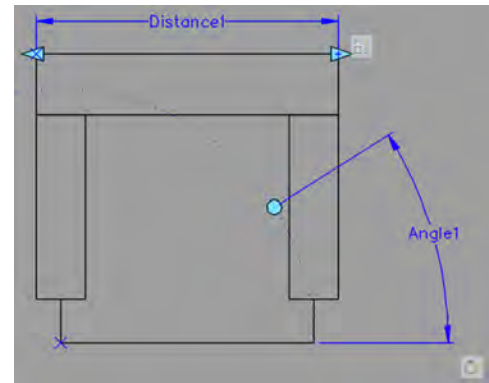

FIGURE 7.12
- Step 3.** Now, you can add actions associated with those parameters. Pick the Actions tab and pick Scale. Then, select the Parameter and the Objects (the chair), as prompted. Repeat the same steps for the rotation. The result is shown in Figure 7.12. Notice the new (faded) scale and rotate symbols, and the disappearance of the exclamation point.